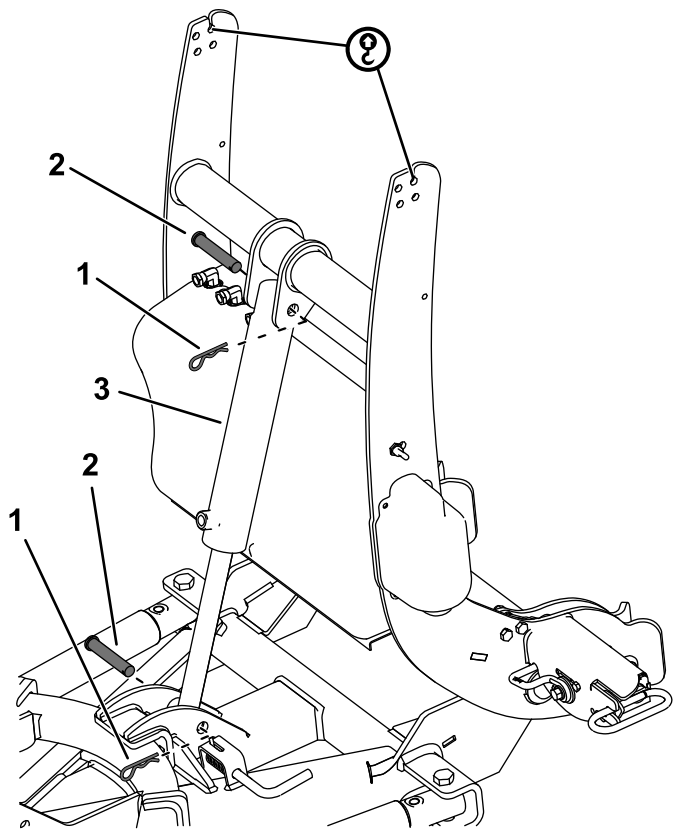

Figure 9
- Secure the rod end of the lift cylinder to the push-frame assembly using a clevis pin and hairpin cotter (Figure 9).
- 7. Secure the free end of the lift cylinder to the coupler tower using a clevis pin and hairpin cotter (Figure 9).